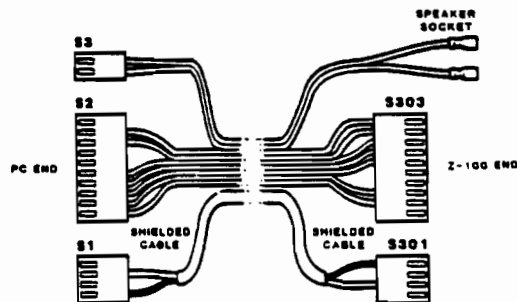

Figure 15
4. Locate the PC end (see figure 15) of the cable assembly provided.